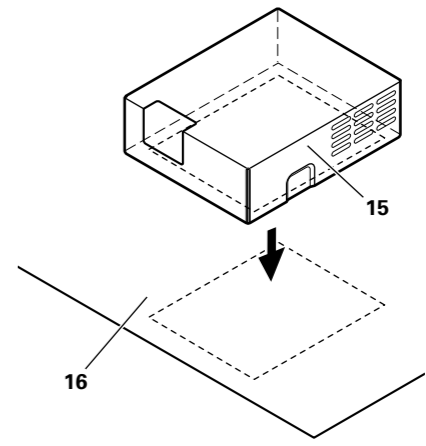

Fig. 9
**Installing the power box (Fig. 9)**